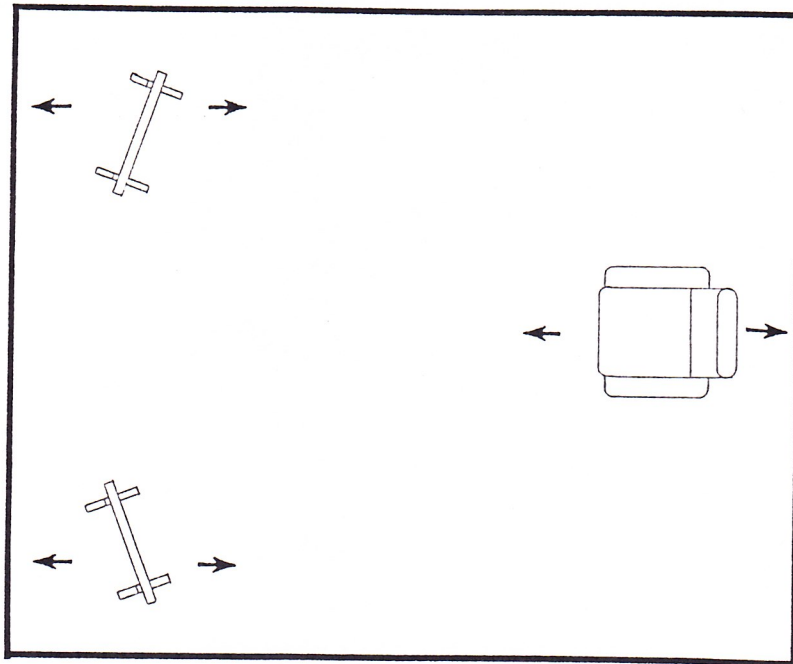

Figure 4
- A. BASS RESPONSE--Play a record (or test signal) with repetitive bass. Try the speakers in several possible locations in the room. Begin experimenting with the speakers about 3 feet from a back wall. Try moving the speakers forward or backward in increments of 6 to 12 inches. One position in the room should be noticeably better than others. Also experiment with your chair location. Positions close to a wall will often result in increased bass (often too much). See Figure 4.
each position. At some point you will start to hear two separate speakers instead of a "stage effect" (or continuous image). When this occurs, your speakers are too far apart: begin moving the speakers back in small increments until you notice a point at which you achieve one cohesive "sound stage." For best results listen to speakers on axis with the listening position as shown in Figures 4 and 5.